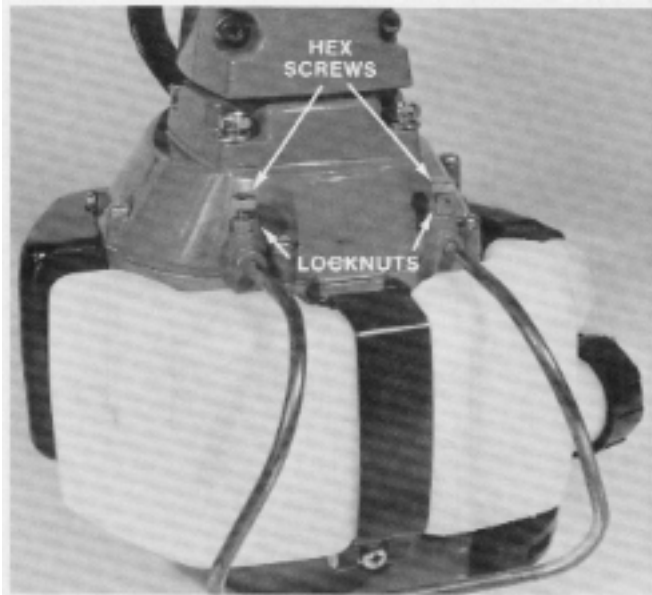

Figure 35
1. Loosen the two locknuts and the corresponding hex screws that retain the fuel tank guard. Remove the fuel tank guard. See Figure 35.